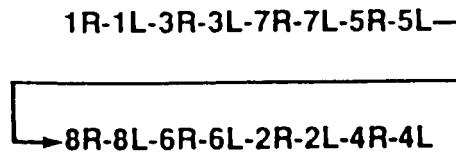

FIGURE 2-38. Firing Order.
(4) Reference FIG. 2-38 for firing order.